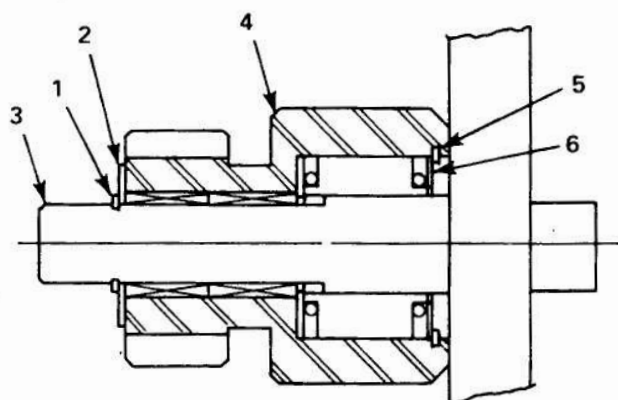
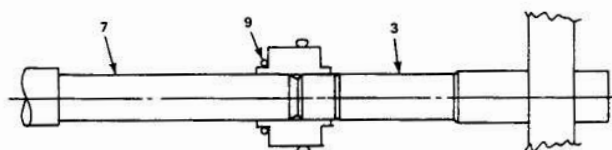
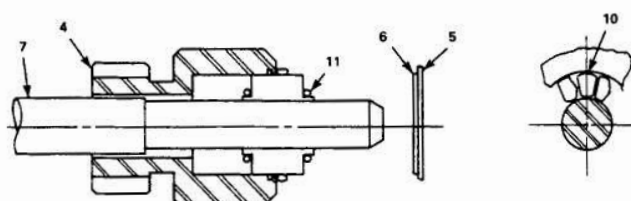

Figure 17-2
Figure 17-4
Figure 17-5
1. Remove outer snap ring (1, figure 17-2) and washer (2) from end of inner race (3). Discard snap ring.
2. Remove inner race (3) from outer race assembly (4) by a slight rotation of inner race in the over-running direction (clockwise). Remove needle bearing.
- a. Remove inner snap ring (5) and washer (6). Discard snap ring.
- a. Push sprags out of outer race assembly (4, figure 17-2) approximately 3/8-inch.
- c. Remove spring (8) and discard.
### 4. Insert inner race (3, figure 17-4) into sprags replacing mandrel (7).
- a. Remove spring (9) and discard.
### 5. Insert mandrel (7, figure 17-5) into sprags replacing inner race (3).
- b. Install new spacer (10) between sprags.
- c. Install new springs (11).
- d. Install washer (6) and remove mandrel and install new inner snap ring (5).